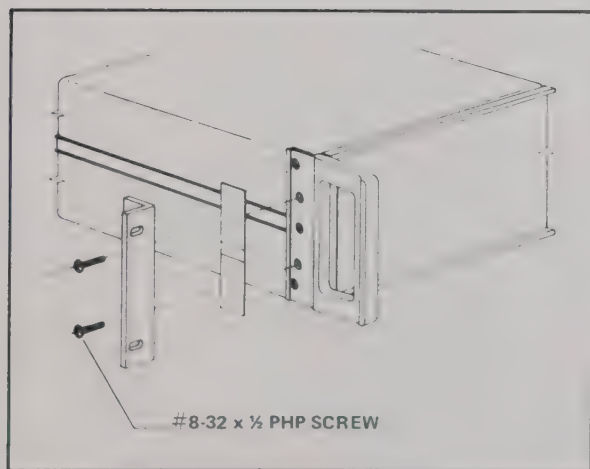

Figure 600-1. Rack Mounting Kit
- b. Remove the front corner screws which match the hole pattern in the rack-mounting ears (see Figure 600-1).